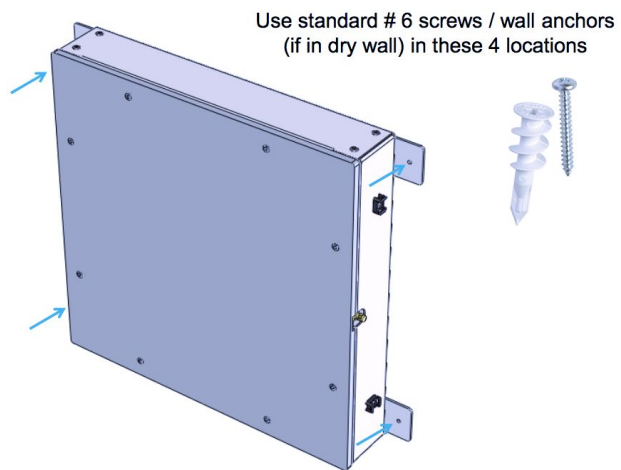

Figure 5: Antenna Module Mounting
- Each module includes mounting plates with screw holes. See figure 5.